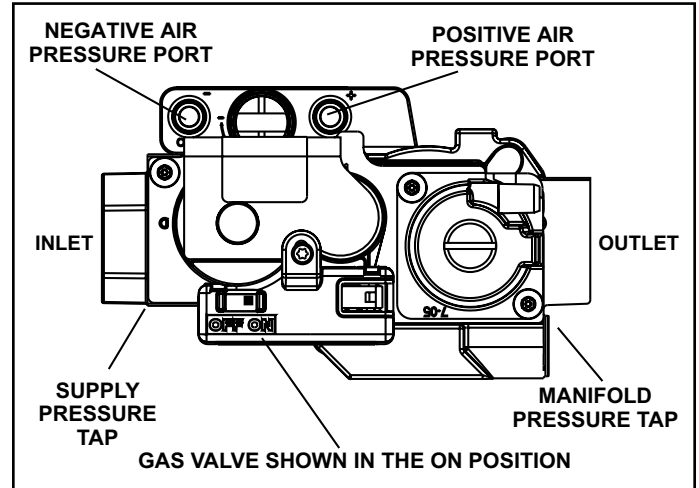

Figure 44. Gas Valve
6. Move gas valve switch to OFF. See Figure 44.
8. Move gas valve switch to ON. See Figure 44.